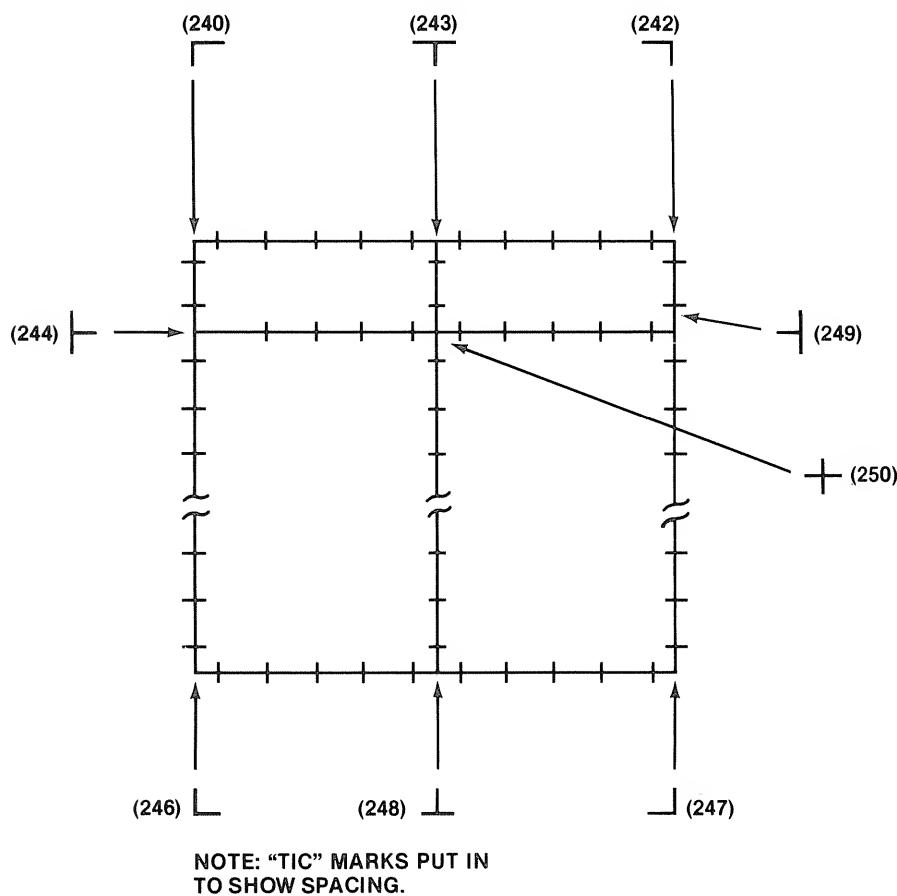

Figure 10-2. Block Graphic Line Segments
The vertical and horizontal line segments can be used together to draw a box or rectangle, and that's where the remainder of the line segments come in. The horizontal and vertical line segments are in the exact center of a character position. A *right-angle* character code of either 240, 242, 246, or 247 can connect a vertical and horizontal line at any corner, as shown in Figure 10-2. Furthermore, a vertical line can be joined to a midpoint on a horizontal line, or vice versa, by using the character codes of 243, 244, 248, and 249. Finally, a *cross* character (250) is the intersection point for two crossed lines.